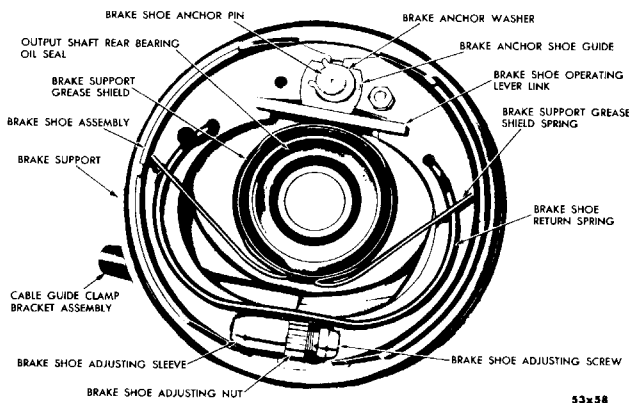

Fig. 20—Internal Expanding Parking Brake (Drum Removed)
(3) Attach puller, Tool C-452 (if necessary) and remove drum and flange assembly.
(4) Remove brake shoe adjusting nut cover plate and loosen cable guide clamp bolt on brake support (Fig. 20). Disengage ball end of cable from operating lever and remove cable from the brake support.
(5) Remove the brake support grease shield spring, and remove grease shield (Fig. 20). Be careful not to damage the neoprene sealing surface at bottom of shield during removal.
(6) Using a suitable drift, remove lock pin that secures brake shoe anchor pin in front lug of extension housing.
(7) Slide balance of brake assembly with anchor pin from the extension housing.
(8) Remove neoprene spacer and steel sleeve from back of brake support plate.
(1) Place the neoprene spacer in position on back of brake support plate with steel sleeve in center of support.
(2) Position brake assembly and anchor pin on end of extension, make sure spacer sleeve remains in center of support. Align anchor pin hole with hole in front lug and install lock pin.
(3) Install grease shield, with flat on shield aligned with flat on extension housing. Install grease shield retainer spring with opening of spring toward brake shoe adjusting nut. Make sure spring is properly seated in groove.
(4) Slide the brake shoe return spring behind the grease shield spring and hook into position (Fig. 20).
(5) Engage ball end of parking cable in brake shoe